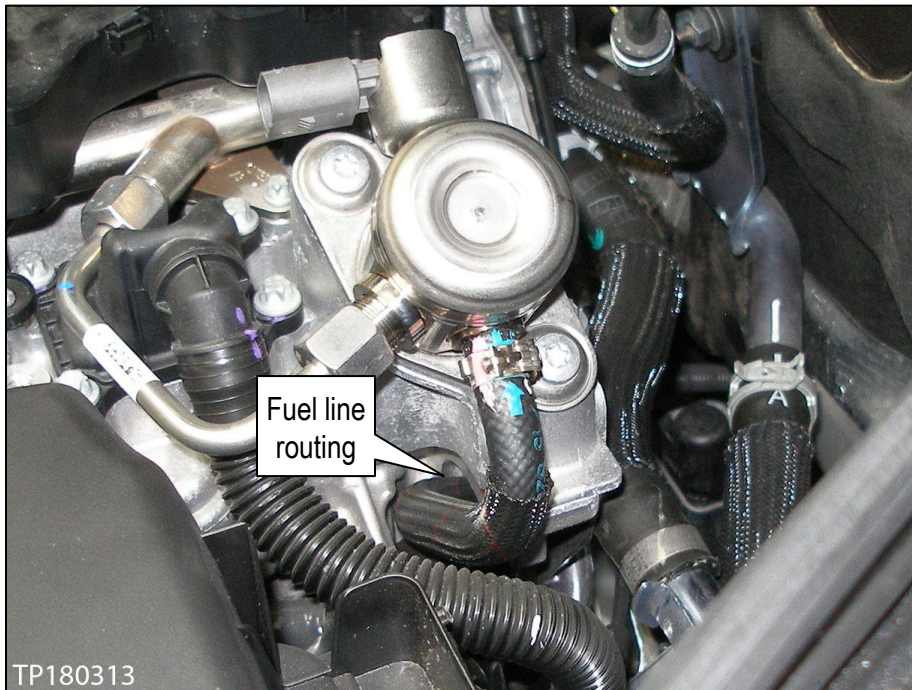

Figure 12
- Refer to Figures 12, 15, and 16 to aid in low pressure fuel line routing.